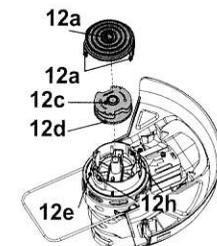

Fig. 23
3. Remove the trimming spool (12c) from the housing (12e) (Fig. 23).